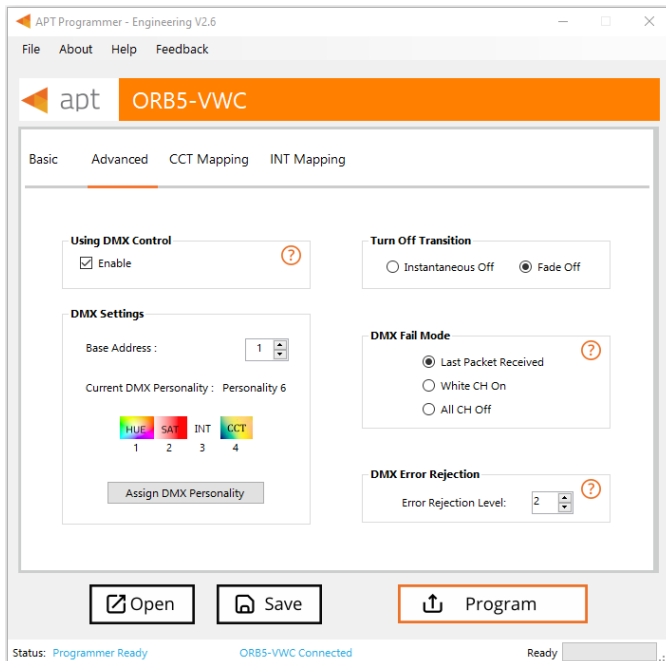

Figure 11: Advanced Tab Window with DMX Control enabled
3. Once enabled, additional DMX settings will be displayed (Figure 11). This step is needed to configure these settings to ensure proper communication between the DMX controller and the ORB5-VWC controller